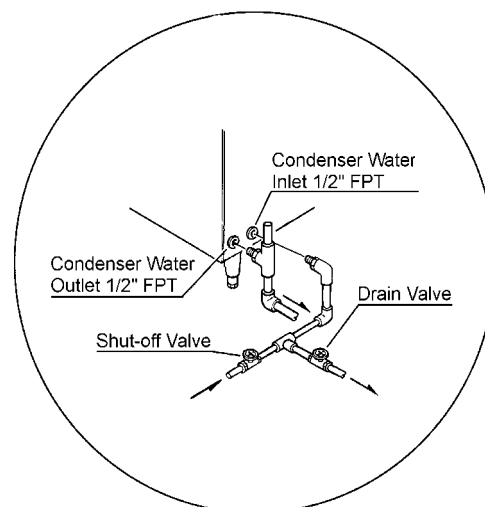

Fig. 2
6. WATER SUPPLY AND DRAIN CONNECTIONS - See Fig. 2
- The drain outlets for the icemaker sump and storage bin are 3/4" FPT. The icemaker drain and the condenser drain piping connections must be made separately from the bin drain. The sump drain should be vented to insure an adequate flow rate during the harvest cycle. (See Fig. 2).
should be between the end of the drain pipe from the icemaker or the ice bin and the floor drain. (See Fig. 2).
7) Remove the Cube Guide and the Overflow Pipe to drain the Water Tank (See Fig. 2).